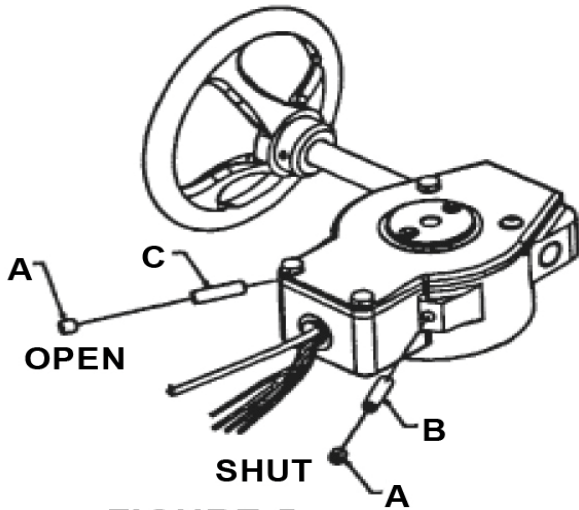

FIGURE 5
5. Stop adjustment – Using a proper size hex Allen wrench, remove both locking set screws (A) as shown in Figures 5 and 6.
- SHUT stop adjustment - Using proper size hex Allen wrench, turn set screw (B) counter-clockwise 2 turns. Rotate hand wheel until disc is centered in valve seat. Turn set screw (B) clockwise until it stops. Secure set screw “B” by replacing only one locking set screw (A) in same hole and tightening it until it stops.
- OPEN stop adjustment – Using proper size hex Allen wrench, turn set screw (C) counter-clockwise 2 turns. Rotate hand wheel until disc is centered in valve opening. Turn set screw (C) clockwise until it stops. Secure set screw (C) by replacing second locking set screw (A) in same hole and tightening it until it stops.